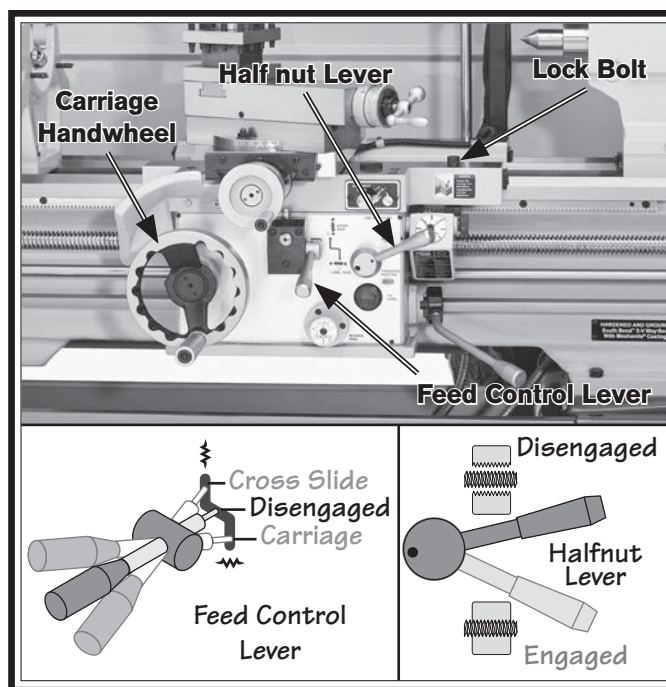

Figure 32. Carriage controls set for moving the carriage.
9. To allow the carriage to move freely when the handwheel is rotated, disengage the half nut lever, put the feed control lever in disengaged position, and make sure the carriage lock is loose (see **Figure 32**).